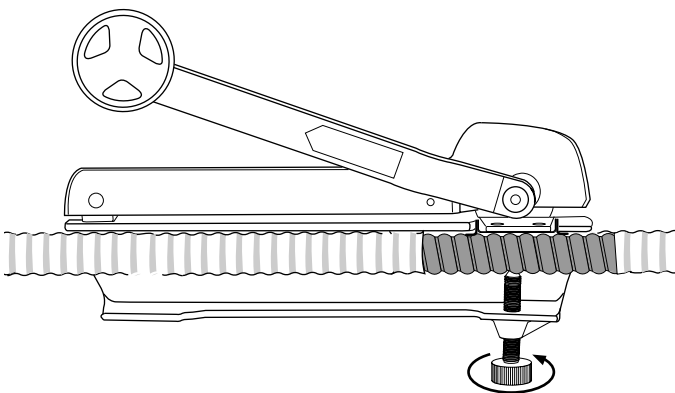

Figure 6
4.6 Place the exposed section of armor in the cable guide of the armor splitting tool (Figure 6). Tighten the tool's thumb screw to secure the cable in the tool (Figure 6).